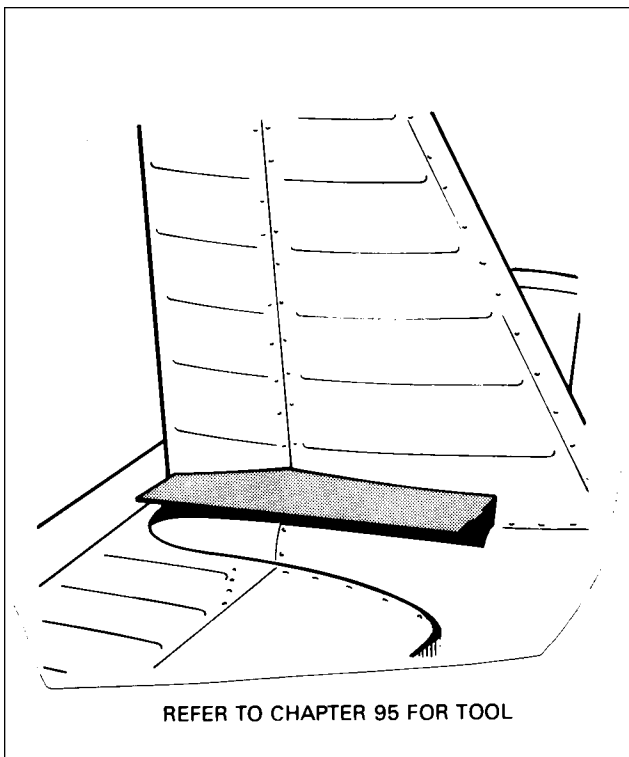

Figure 27-10. Utilization of Rudder Rigging Tool
- B. With the rudder against its stop, place a rigging tool against the side of the rudder and vertical stabilizer as shown in Figure 27-10. (Ascertain that the tool is not contacting any rivets.) If no gap exists between the rigging tool and the surface of the rudder and vertical stabilizer, the rudder stop for one direction of travel is correct as required in Figure 27-8 . (This tool may be fabricated from dimensions given in Chapter 95.)